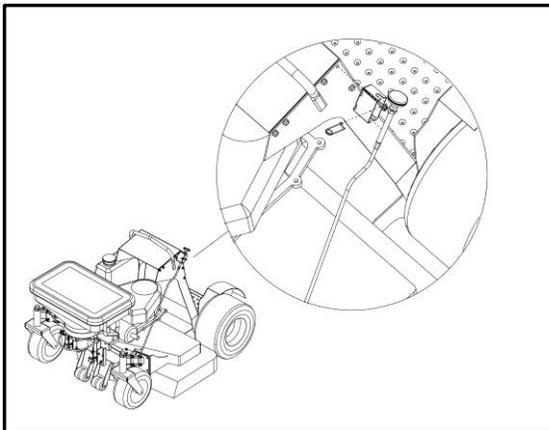

Figure 1-5
Refer to Figure 1-5, 1-6, 1-7, and 1-8
- a) Install cable mount to an existing bolt in frame/handle near the operator or drill and bolt to the frame/handle. Figure 1-5.